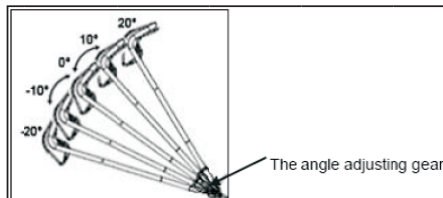

Fig.3
2. Rotating the upper handle centered of the angle adjusting gear for adjustment at appropriate angle into the scope -20° to 20° as the Fig.3 shown;